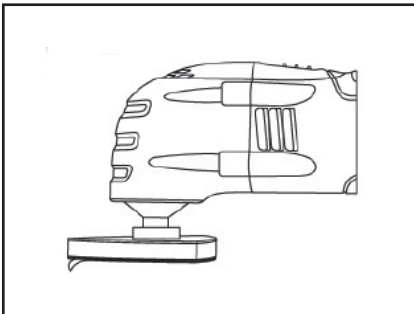

Fig. 4
3. To remove the sandpaper, simply peel the sandpaper away from the hook & loop pad (Fig.4).